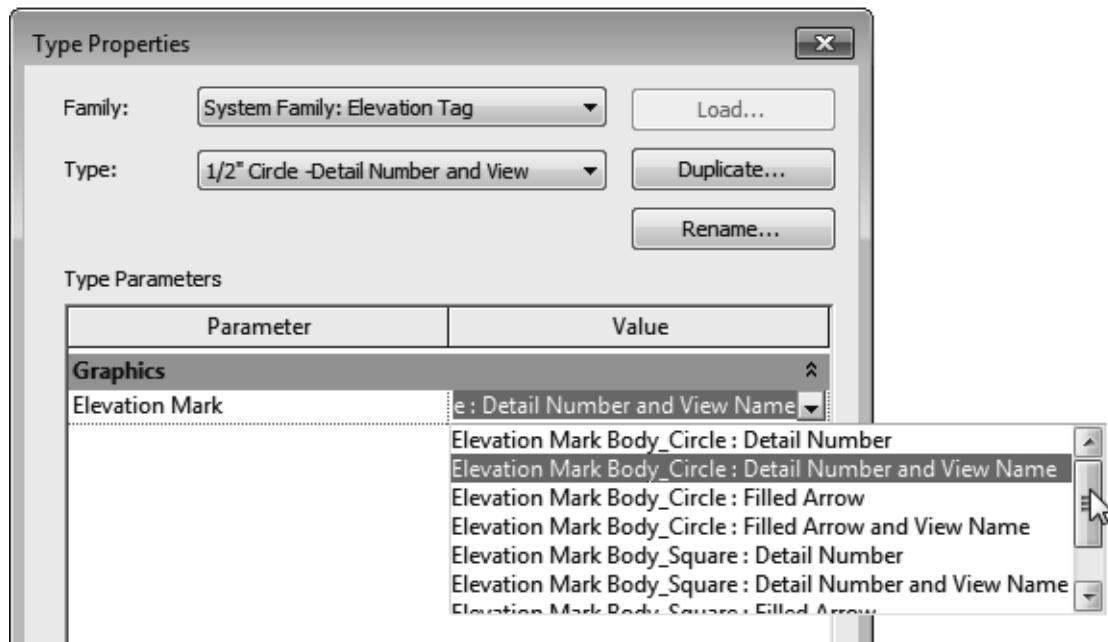

Figure 1–18
4. Modify the parameters as needed for the new type. In the example of an Elevation Tag shown in Figure 1–18, a new type was created and a new Elevation Mark was selected.